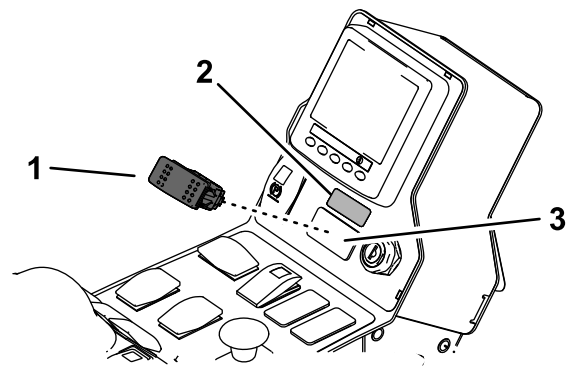

Figure 4
3. Remove the knockout from the control panel and install the switch (Figure 4).
4. Adhere the auxiliary-brake decal above the switch (Figure 4).